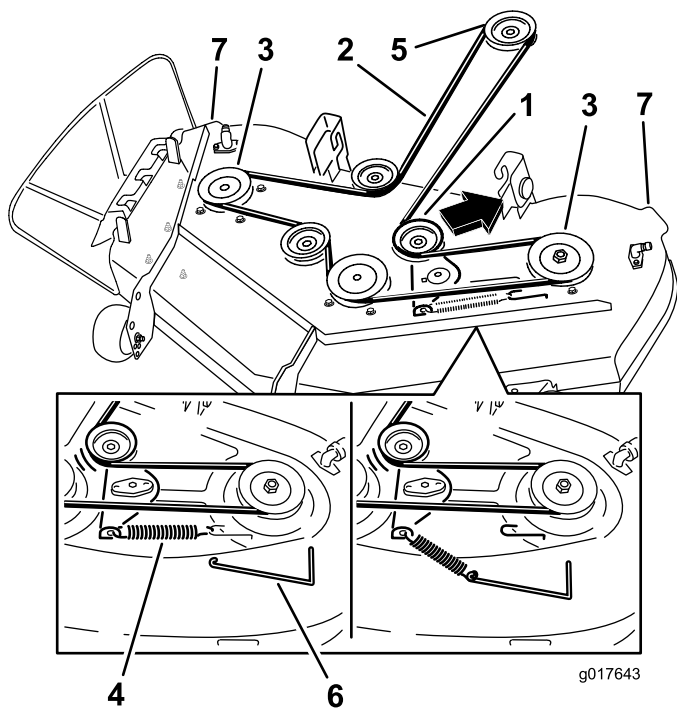

Figure 64
5. Using the mower deck handles, lift the mower deck and hanger brackets clear of the rear lift rod and lower the mower carefully to the ground (Figure 61 and Figure 64).
4. Using a spring removal tool, (Toro part no. 92-5771), remove the idler spring from the deck hook to remove tension on the idler pulley and roll the belt off of the pulleys (Figure 64).
5. Route the new belt around the engine pulley and mower pulleys (Figure 64).
6. Using a spring removal tool, (Toro part no. 92-5771), install the idler spring over the deck hook and placing tension on the idler pulley and mower belt (Figure 64).